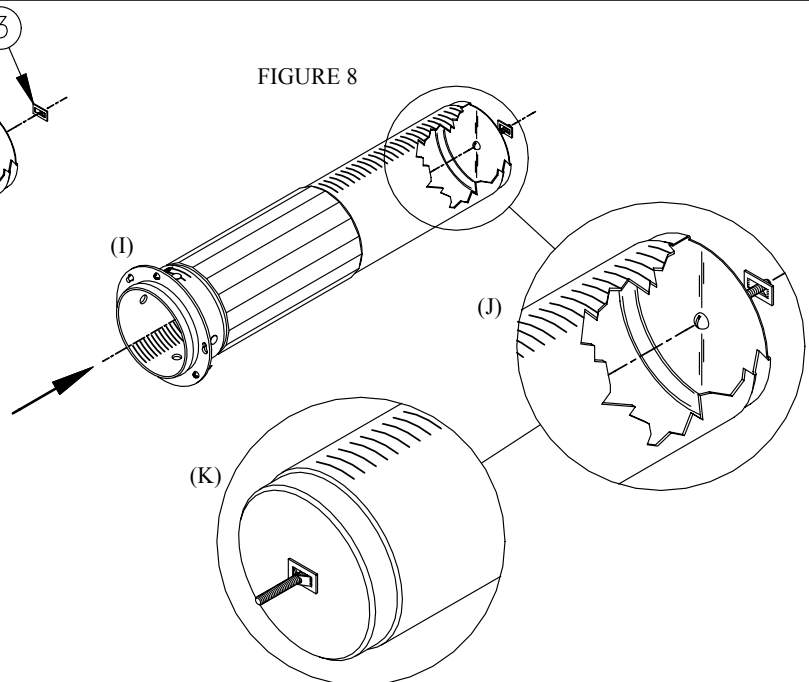

FIGURE 8
2. Grasp the head of the screw(1) with your hand and lead it inside the open end of dispenser to the bottom(See Figure 8 illustration I).
3. With screw(1) in hand, lead threads through hole in bottom of dispenser, ONLY threads of screw(1) will pass through this hole(See figure 8 illustration I).
4. While holding screw(1) firmly to the bottom from inside the dispenser, attach speed clip(3) by threading it on screw(1) as shown in figure 8 illustration J.
5. While continuing to holding screw(1) to the bottom, tighten speed clip(3) firmly to bottom of dispenser (See Figure 8 illustration K).